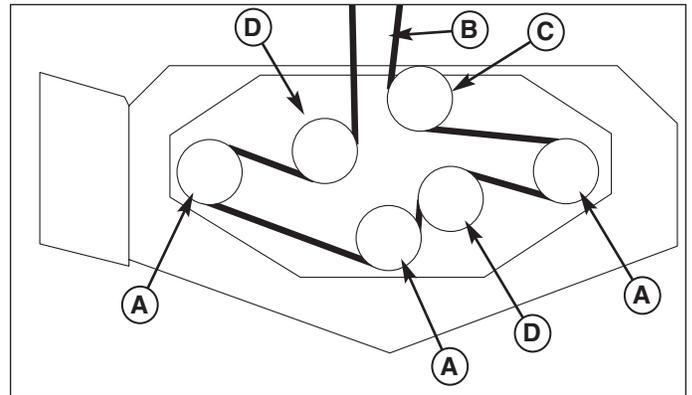

Figure 27. Mower PTO Belt Routing
2. If belt is not properly seated, use a 1/2" breaker bar, and place the square end in the square hole located in the end of the idler arm (A, Figures 27). Carefully rotate the breaker bar **COUNTER-CLOCKWISE**, which will relieve the tension on the belt exerted from the idler arm.